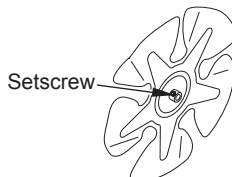

Figure 11 - Setscrew Location
3. Use hex wrench to loosen set screw which holds fan to motor shaft (see Figure 11). Remove fan. Be careful not to damage the fan blade pitch.
3. Use hex wrench to loosen set screw that holds fan to motor shaft (see Figure 11, page 7).